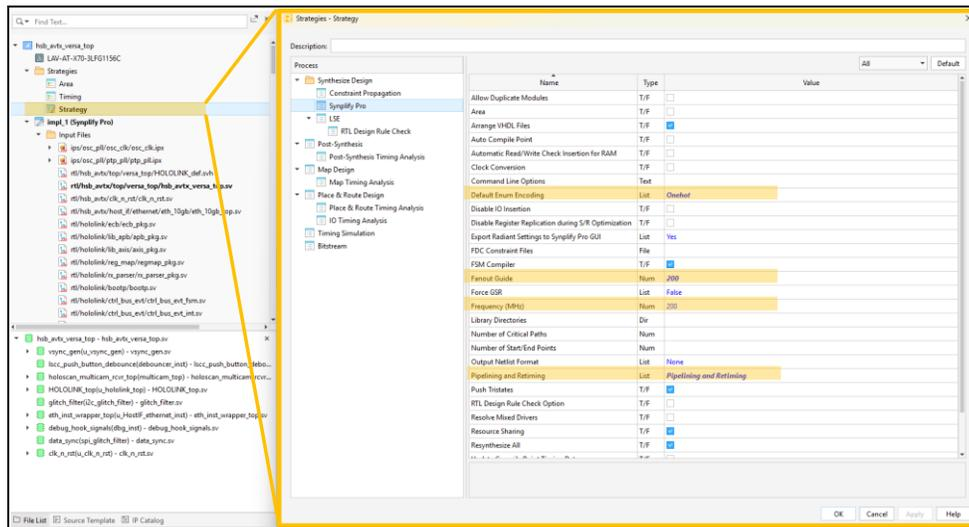

Figure 5.5. Synthesis Design’s Strategy
3. Modify the Synplify Pro strategy details under **Synthesis Design > Synplify Pro**. Refer to Figure 5.5.